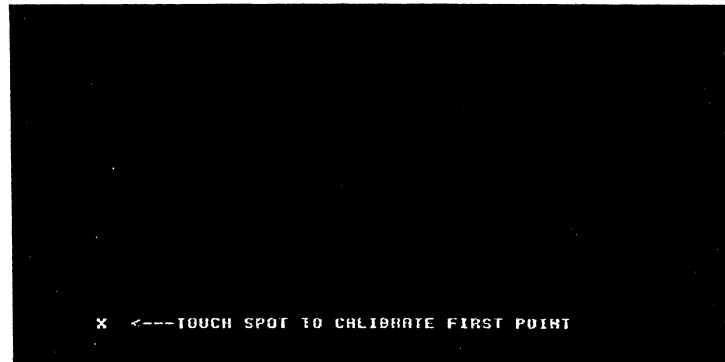

fig. 4.8
- D. Momentarily engage the Supervisor's keyswitch. You will be brought to the Touch Calibration screen. (See fig. 4.8). The only text on the screen should read "TOUCH SPOT TO CALIBRATE FIRST POINT." You should be standing square in front of the machine, not off to one side, and you should have your arms against your sides. With your active hand, reach out with your index finger only, and touch the screen for 1/2 second on the "X" mark. Now the "X" mark will appear near the upper right corner of the screen. Touch the mark as before. Be sure not to touch anything with your inactive hand during the alignment procedure as the touchscreen is very sensitive in this mode.